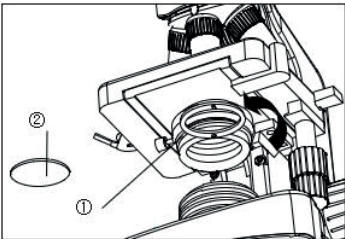

Fig.7
2.2.4 Installing the color filters (Fig.7)
1. Turn the condenser bracket 1 out at the direction of arrow in Fig.7